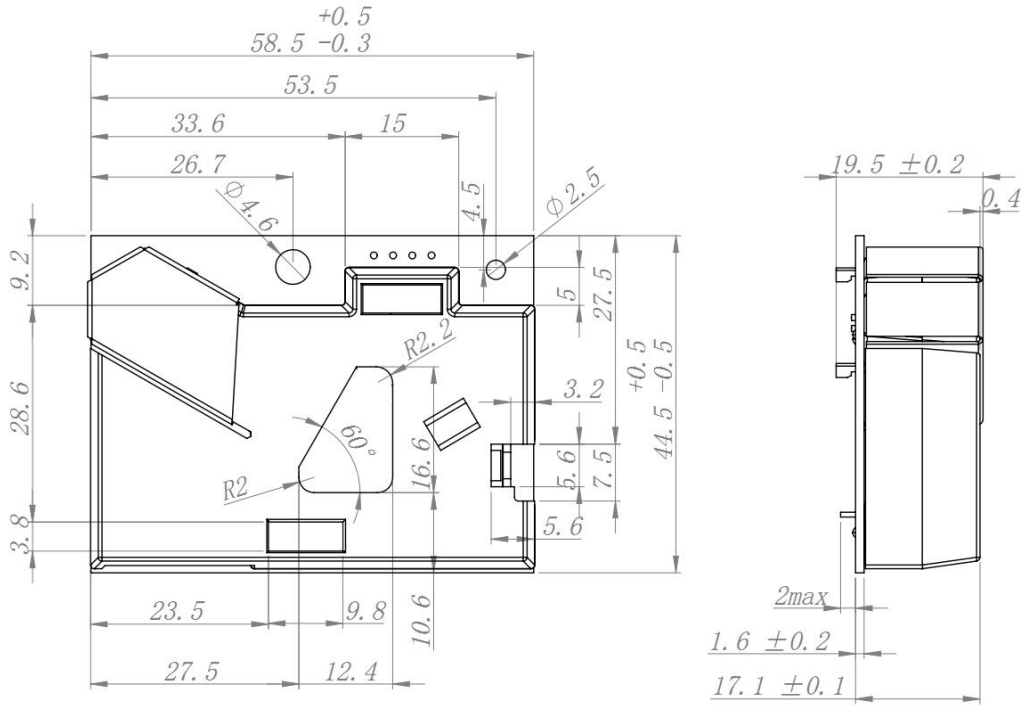

Fig1.Structure
1.3 Avoid light The dust sensor uses a specific wavelength light LED and a photoelectric sensor with visible light to detect dust particles. The external light radiation will affect the optical signal of the dust sensor. It is recommended to use a sponge to cover the center triangle hole of the dust sensor (as shown in Figure 1). Block the air inlet and outlet of the sensor.